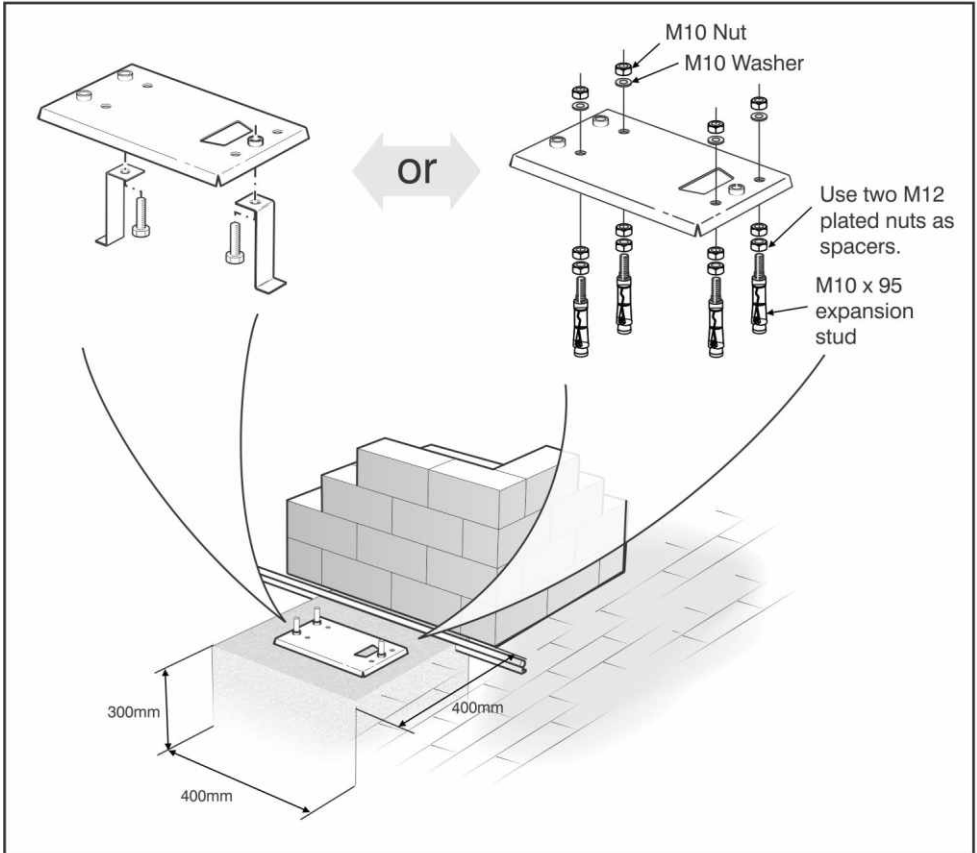

Figure 10 Foundation Plate Mounting
- Depending on the mounting method, either prepare a square hole for a concrete foundation, or drill holes for RAWL bolts as shown in Figure 10.
- Securely concrete or bolt the baseplate in position as shown in Figure 10.